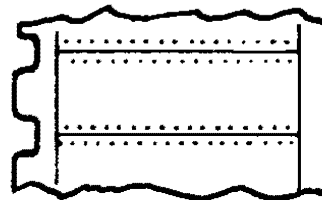

Figure 6. Bradysleeve Wire Marking Sleeve
37. **DESCRIPTION OF SLEEVE.** The sleeving is a self-extinguishing, heat-shrinkable, flat profile polyolefin sleeve specially designed for use in the BMXC-Plus printer. The sleeving has a 2:1 shrink ratio, a shrink temperature of 300°F (150°C), and a service temperature rating of -40°F to 221°F (-40°C to 105°C) (Figure 6).